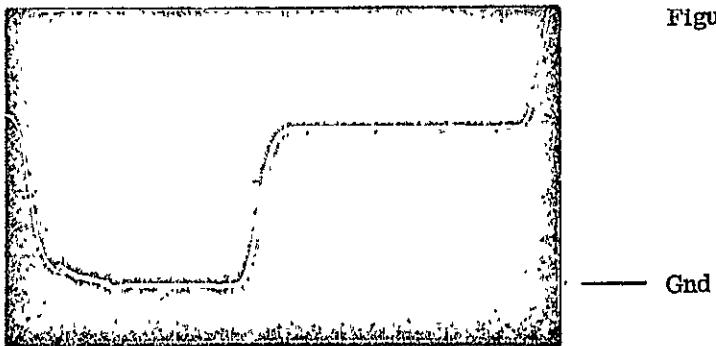

Figure 5-8. A2TJ1 V-Clamp
5.3.1.3.1 Video Clamp Level Adjustment (refer to Figure 5-8)